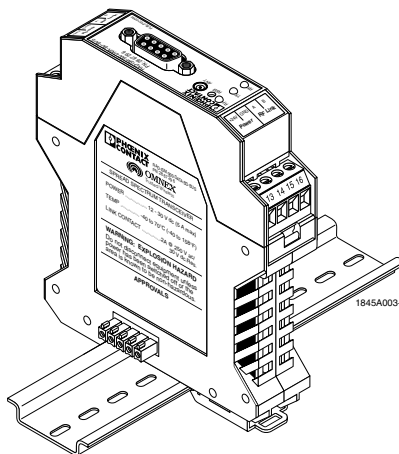

Figure 1-3. RAD-ISM-900-DATA-BD-BUS Data Radio
1.2.3 RAD-ISM-900-DATA-BD-BUS (See Figure 1-3)